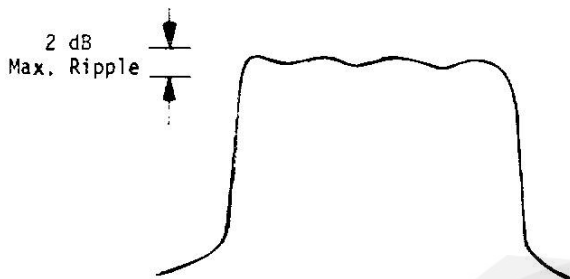

Figure 4-4. IF Response
3. Adjust T101, T102, T103, T104, and T105 for a bandpass response similar to that shown in Figure 4-4 below. The ripple should not exceed 2 dB, and in most cases will be 1 dB or less.